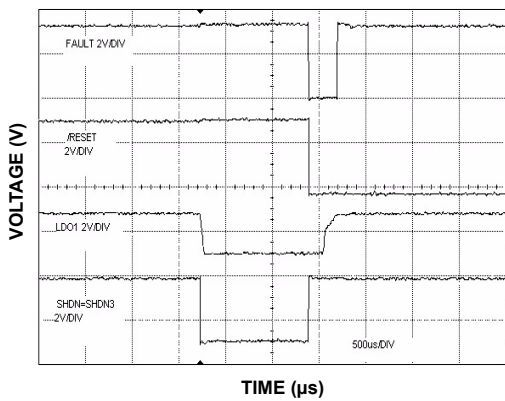

FIGURE 19. SHUTDOWN vs RESET and FAULT
**FAULT** - This is the power good indicator for LDO1. When the 1.8V output is out of regulation (> $\pm$ 5%, typ.), this pin goes LOW. This pin also goes LOW during thermal shutdown and any overcurrent event on LDO1. Connect this pin to GND, if unused. This pin remains HIGH in the shutdown mode, as controlled by the SHDN pin (refer to Figure 19).
Driving the SHDN input LOW puts both LDO1 and LDO2 in shutdown mode. Driving the SHDN3 input LOW puts LDO3 in shutdown mode. Pulling the SHDN and SHDN3 pins LOW simultaneously, puts the complete chip into shutdown mode, and supply current drops to 5 $\mu$ A typical. Both SHDN and SHDN3 inputs have internal pull-up resistors, so that in normal operation the outputs are always enabled; external pull-up resistors are not required. During shutdown mode using the SHDN pin, the FAULT output will remain HIGH (refer to Figure 19).
The FAULT pin monitors LDO1 output regulation, as well as fault conditions such as current limit and thermal shutdown. The FAULT output goes LOW, if the LDO1 output is out of regulation by  $\pm 5.5\%$  (typ.). During shutdown mode using the SHDN pin, the FAULT output will remain HIGH (refer to Figure 19).